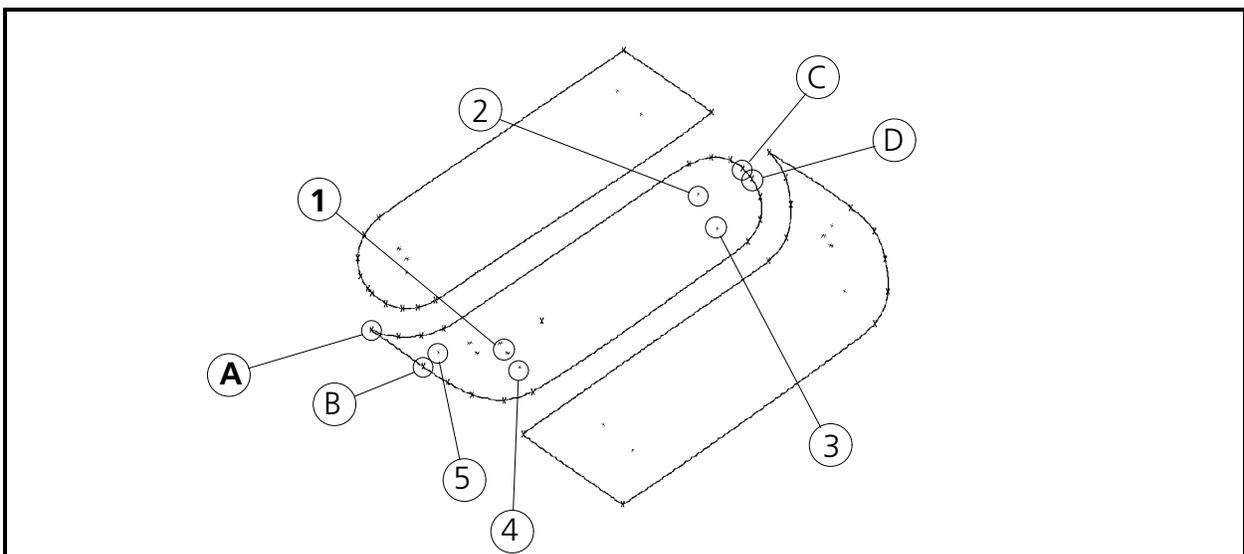

Figure 6-77
1. Near point D in the first fill, generate a lock stitch pattern, then add the needle up / normal stitch functions to go to point 1 in the middle section of the logo as shown in Figure 6-77.
2. Put in a lock stitch pattern and generate underlay stitches with Mk1s at points 2, 3, 4, and 5 in Figure 6-77.
5. Now move to point A in Figure 6-77 and enter a Mk1 to start this fill.
6. Move to point B in Figure 6-77 and enter another Mk1. You have just defined the first line of the middle fill.
7. Enter Mk1s at C and D in Figure 6-77 to define the last line of the fill. Notice that this line is the shorter of the two so line A-B will determine the direction of stitching.